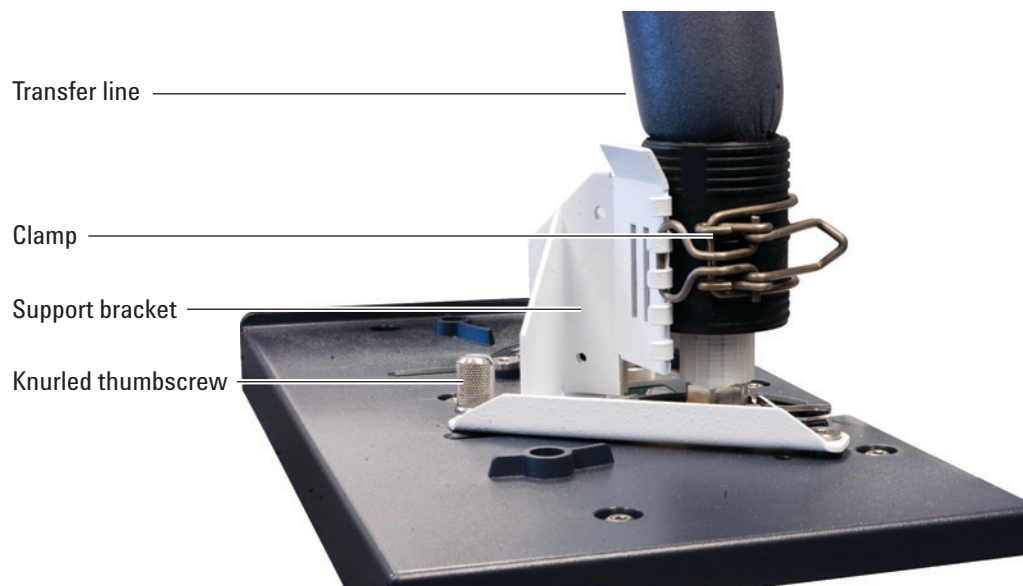

Figure 17 Transfer line installed onto 7890A inlet
- 5 Install the clamp onto the bracket. Align the clamp so that it supports the transfer line as high as possible above the GC as shown in Figure 17.